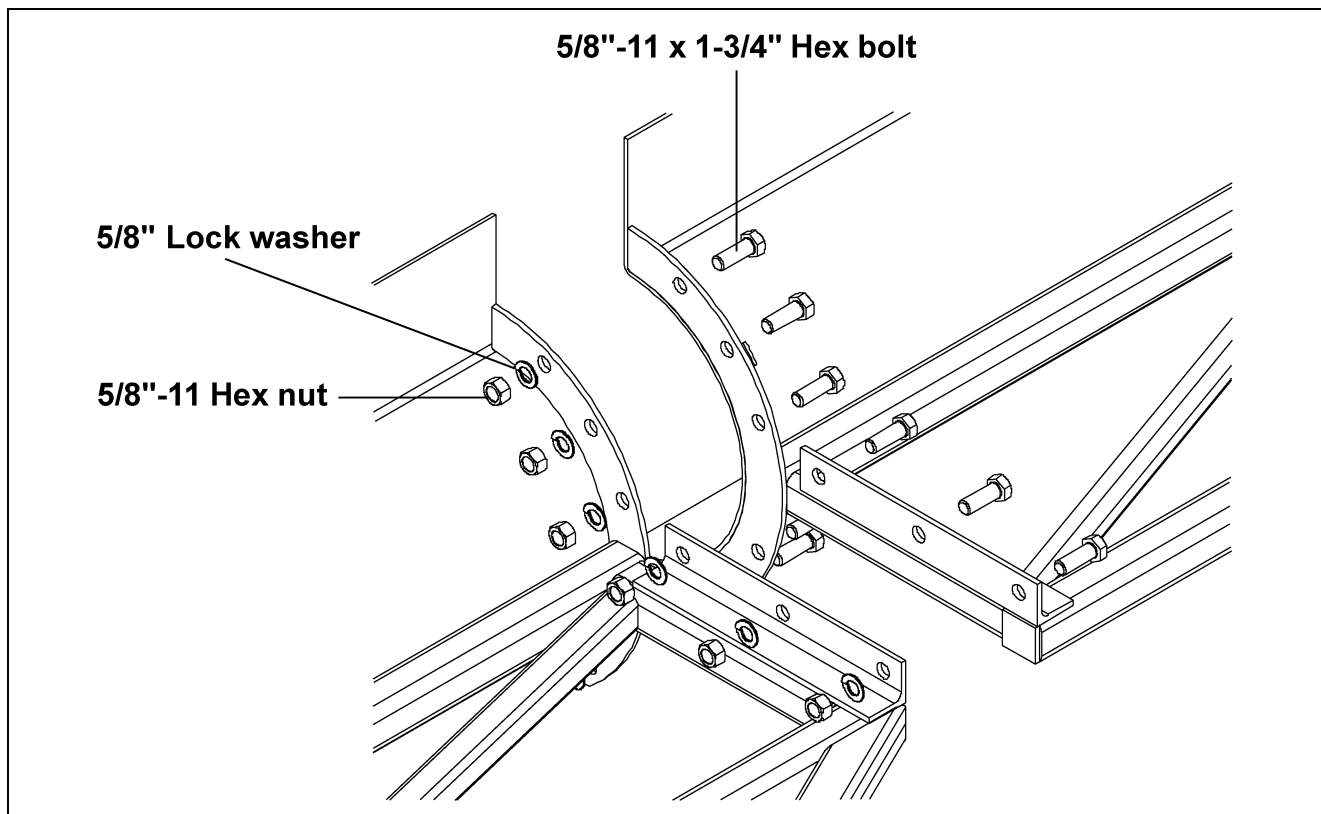

Figure 5A
B. Use eight (8) 5/8"-11 x 1-3/4" grade 8 hex bolts, lock washers and hex nuts at each section connection.
**The bolts MUST be installed as shown in Figure 5A.**